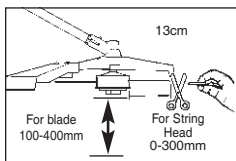

Fig. 9A
**NOTE:** To minimize load on engine during starting and warm-up, trim excess cutter line to 13cm (Fig. 9A).